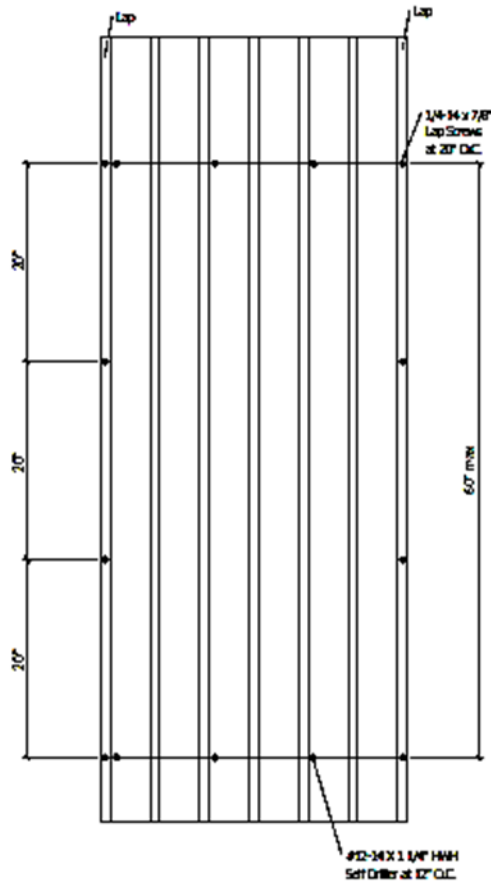

Figure 1. Minimum 26-Gauge PBR Panel Fastener Pattern
- **Attachment of Metal Panels to the Steel Purlins/Girts:** For panel-to-purlin/girt attachment, secure to the steel purlins/girts with No. 12-14 x 1-1/4" long Hex Head w/ 9/16" Dome Washer. Locate a line of fasteners along each steel girts. Tables 1 through 4 specify the fastener pattern and the spacing. Use fasteners long enough to ensure a minimum penetration of 3 pitches of thread below the steel girt. Refer to Figure 1 in this evaluation report.
- **Panel Ends and End Laps to Steel Purlins/Girts:** Minimum No. 12-14 x 1-1/4" Hex Head w/ 9/16" Dome Washer. Tables 1 through 4 specify the fasteners pattern. Use fasteners long enough to ensure a minimum penetration of 3 pitches of thread below the steel girt. Refer to figure 1 for an illustration of the fastener pattern.
- **Panel Edges to the Steel Purlins/Girts:** Minimum No. 12-14 x 1-1/4" Hex Head w/ 9/16" Dome Washer. Tables 1 through 4 specify the fasteners pattern. Use fasteners long enough to ensure a minimum penetration of 3 pitches of thread below the steel girt. Refer to figure 1 for an illustration of the fastener pattern.